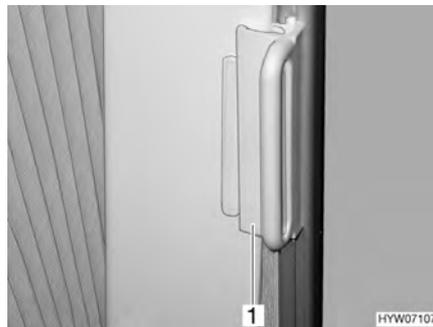

Fig. 21 Locking mechanism for Roman shade on driver's/front passenger's windows
- On the Roman shades for the driver's and passenger's window, push the handle (Fig. 21,1) onto the cap. The Roman shade is secured.